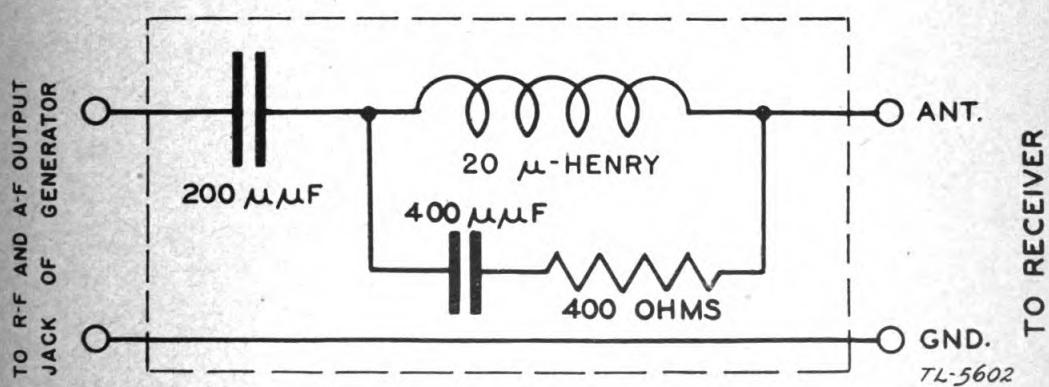

FIGURE 2.—I. R. E. standard dummy antenna—schematic diagram.
**3. Preparation for use.**—In alining the r. f. circuits of a receiver, some form of dummy antenna must be used to prevent undue reaction between the low output impedance of the signal generator and the input circuits of the receiver. Unless other instructions are contained in the maintenance instructions for the receiver being alined, the I. R. E. dummy antenna as shown in figure 2 may be used. This antenna may be built up by using 45 turns of No. 34 DSC wire, close-wound on a  $\frac{1}{2}$ -inch form. This should give an inductance of  $20\mu$ h. One capacitor of  $200\mu$ f, one capacitor of  $400\mu$ f, and a 400-ohm noninductive resistor will also be required. The dummy antenna should be connected between the signal generator and the receiver as shown in figure 2.